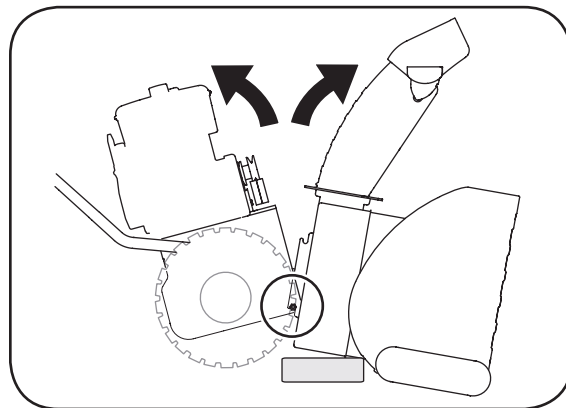

Figure 6-9
- Place a block of wood underneath the auger housing as shown in Figure 6-9 and separate auger housing from the frame by tilting the housing forward and pulling up the handles.